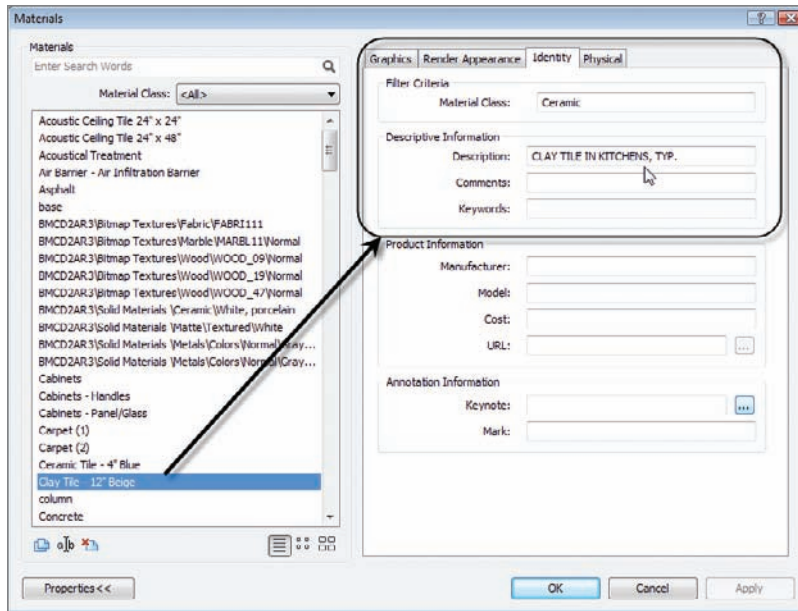

FIGURE 11.74 Changing the description of the material can result in “automatic” notation of your model.
2. Find the material called Clay Tile - 12" Beige, as shown in Figure 11.74, and select it. (We made it earlier when we were doing the floors in Chapter 6, "Floors.")
3. To the right of the Materials dialog, you will see four tabs: Graphics, Render Appearance, Identity, and Physical. Click the Identity tab, as shown in Figure 11.74.
4. In the Descriptive Information section, click the Description field and type CLAY TILE IN KITCHENS, TYP (see Figure 11.74).